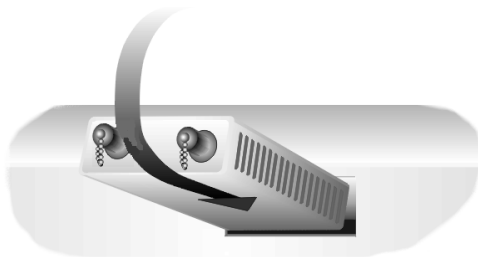

Figure B-2. Installing a Laser Cartridge
3. Place the top of the card edge on the laser cartridge against the top of the slot with the cartridge body angled downward toward the slot door, as shown in Figure B-2.